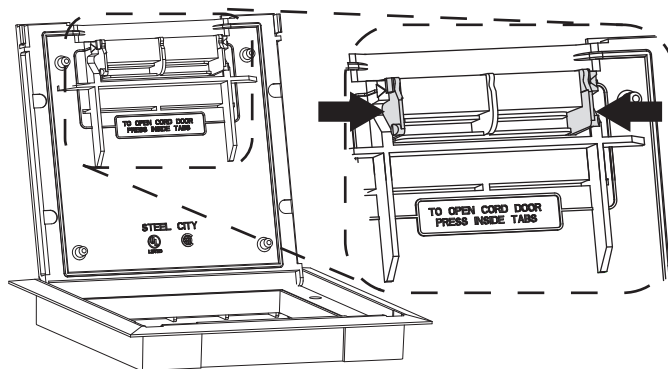

FIGURE 3
- 2) To raise Cord Door, use thumbs or fingers to press the two inside "locking" tabs and rotate the Door open. See note on underside of Lid (see Figure 3).